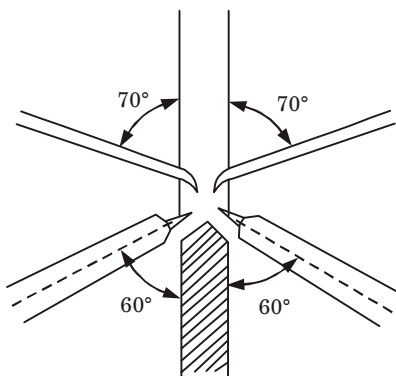

Fig. 4.15.1. Aluminium welding by double-operator method.
1. Aluminium welding by double operator method as shown in Fig. 4.15.1.